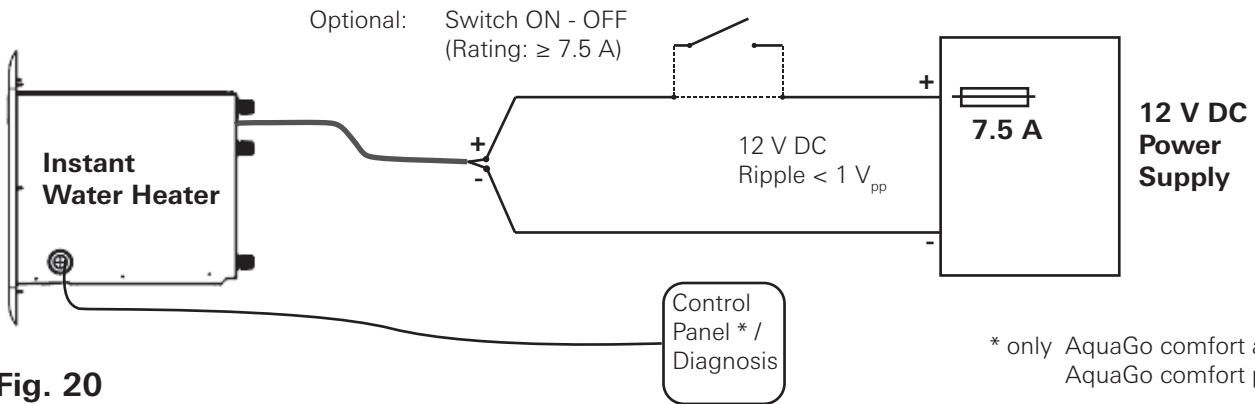

Fig. 20
- Connect the electrical lines with the proper polarity to the 12 V DC power supply (refer to "Electrical connection for all models" on page 31). Install a 7.5 A fuse exclusively dedicated to the appliance (see Fig. 20).